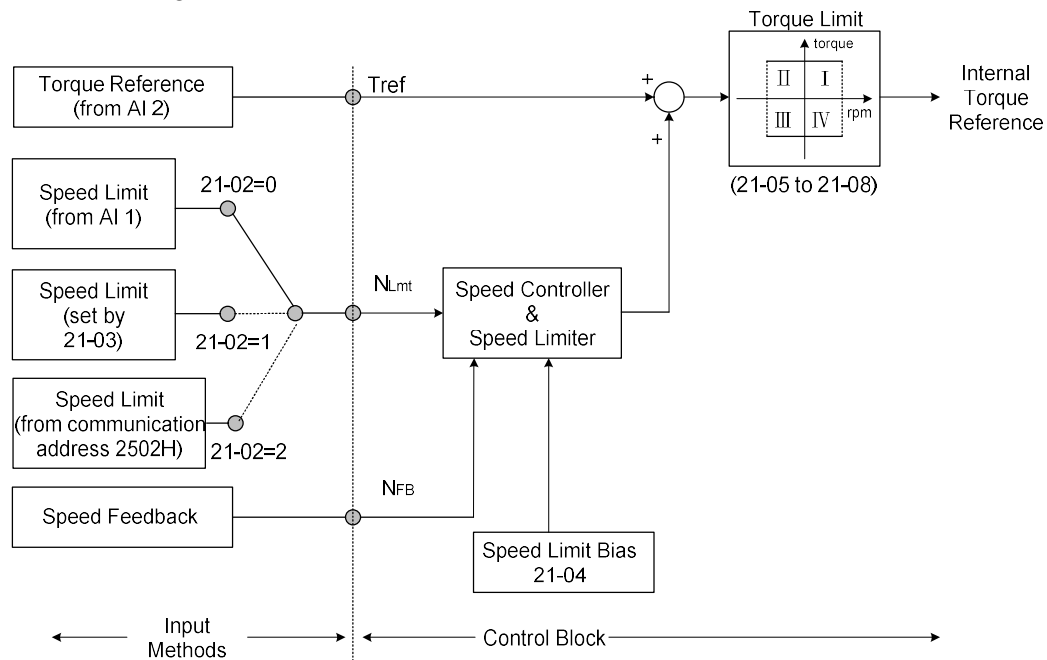

Figure 4.3.161 Torque Control Block Diagram
- Reverse: When the motor shaft rotates clockwise in response to the inverter’s run command. A typical PG signal is shown below in Figure 4.3.161.